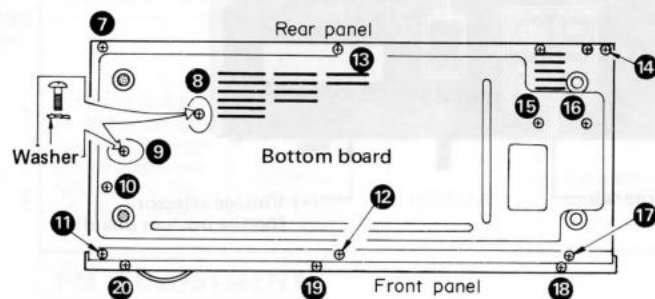

Fig. 2
2. Remove the 11 setscrews (Fig. 2 : ⑦ ~ ⑰) of the bottom board.